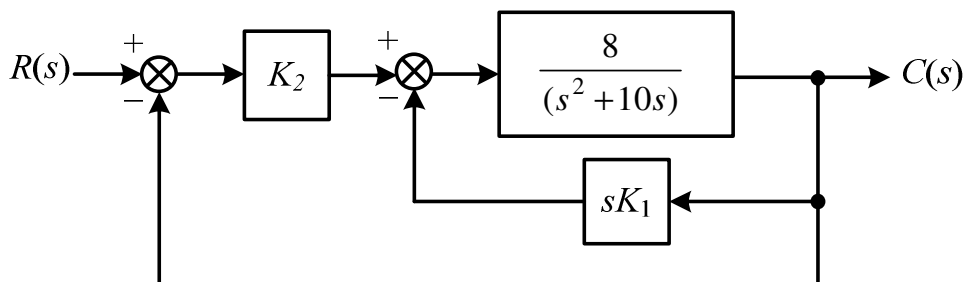

Fig. 15
20. For the control system shown in Fig. 15, the system is subjected to an input $r(t)=2t$, where K_1 and K_2 are constants.